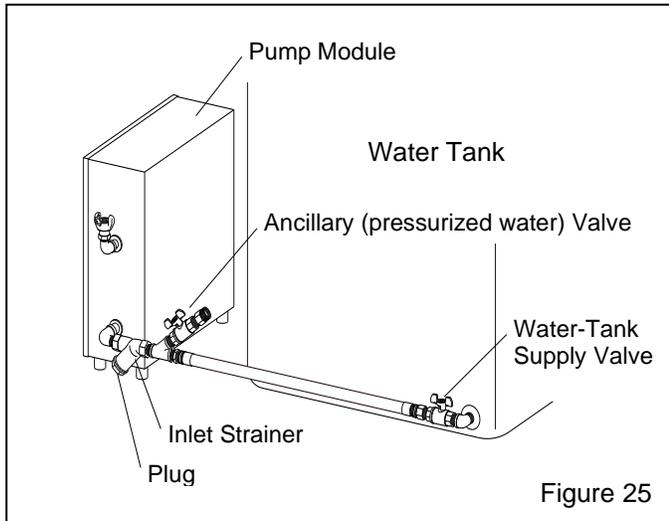

Figure 25
6.6.1 Water freezes and expands at 32° F. When shutting down be sure to drain the water tank, refer to Figure 25 and open the water-tanks supply valve and ancillary water valve to allow for expansion. Drain all water from the pump module by removing the plug on the inlet strainer.